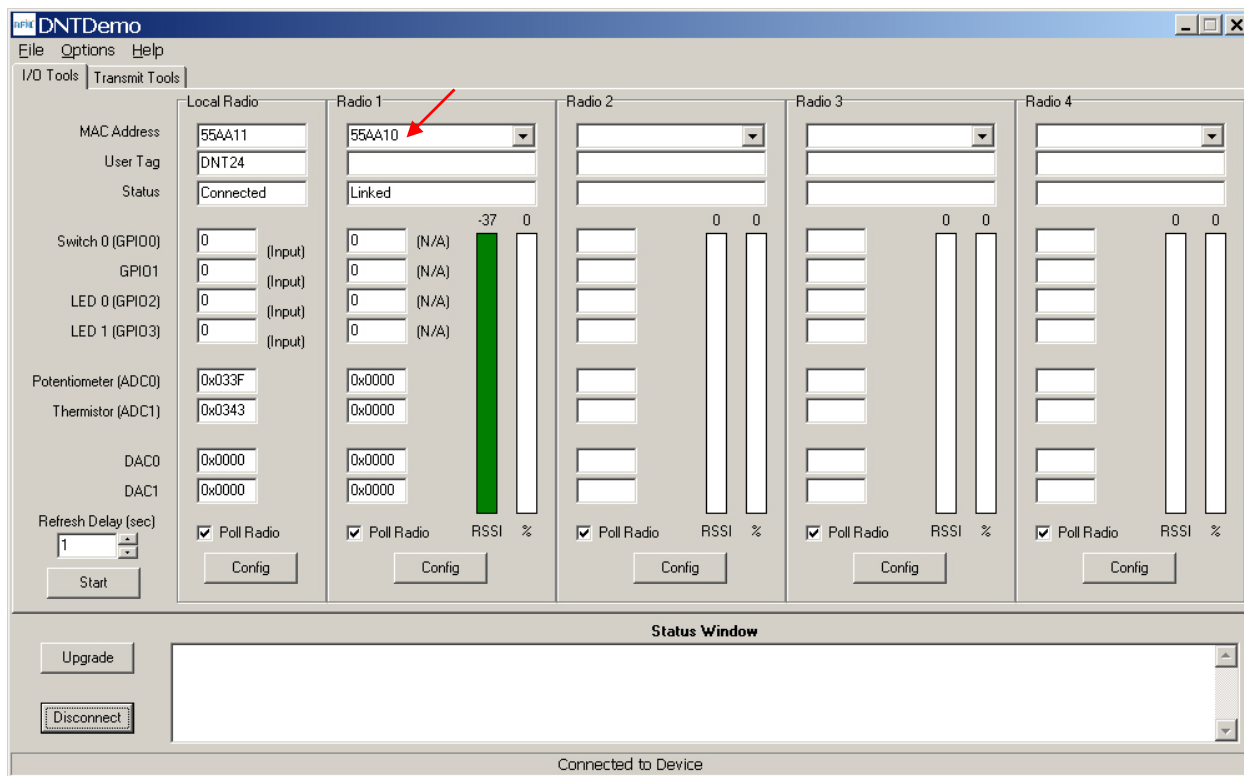

Figure 8.6.3
3. At this point the utility program will collect data from the Base, filling in the *Local Radio* column as shown in Figure 8.6.3.